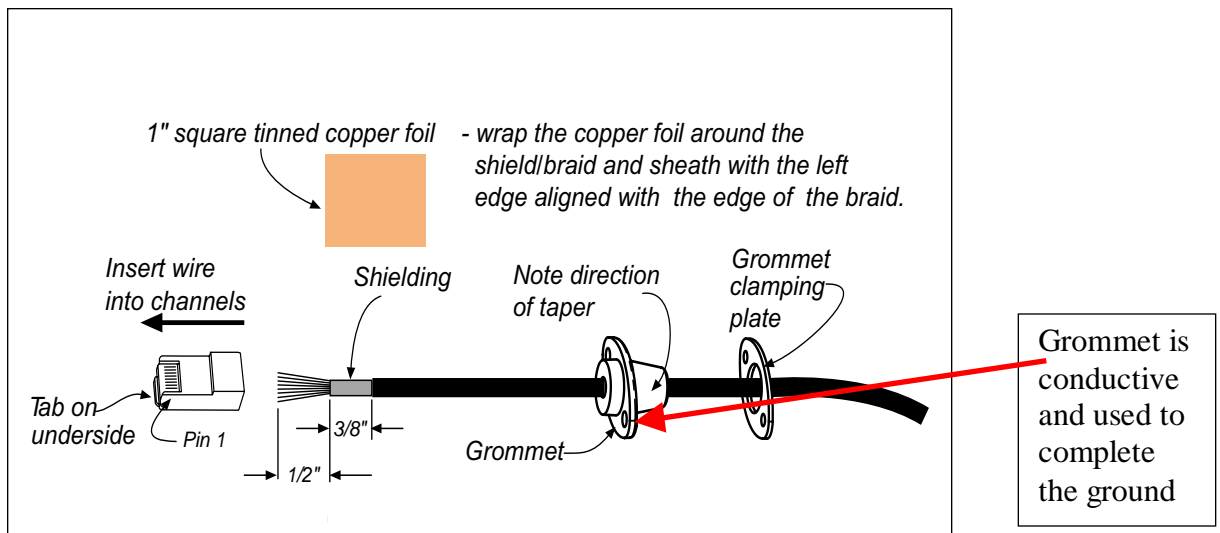

Figure 7-10 Outdoor Subscriber Unit of the Interconnect Cable with Cable Preparation
2. Insert the cable end through the grommet clamping plate (Figure 7-10).
3. Using a piece of 1 inch squared tinned copper foil, wrap the foil around the shield/braid and sheath with the left edge aligned with the edge of the braid, as shown in the following Figures 7-10 and 7-11.